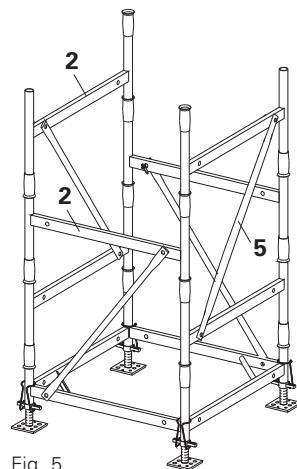

Fig. 5
5. Mount six Stacking Frames (2).
- (Fig. 5)
6. Install four Diagonal Braces (5).